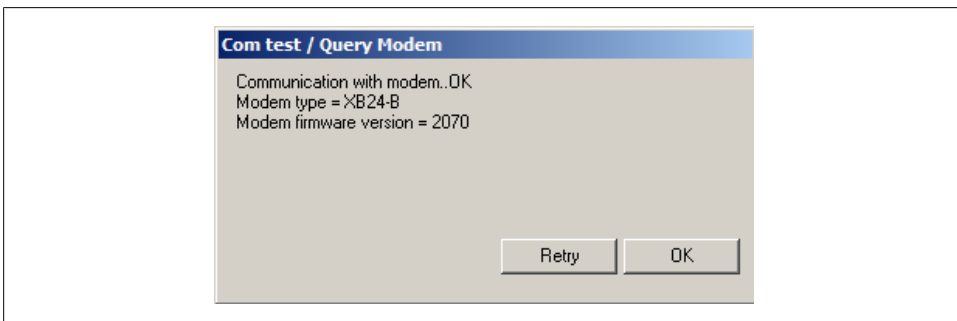

Figure 2-7. X-CTU test confirmation
The default settings in X-CTU will usually work for brand-new XBee radios that were configured at the factory. The easiest way to confirm that everything is set up correctly is to click on the Test/Query button once you've selected a COM port. If all goes well, you'll see a message that communication with the modem is OK and that gives you the modem type and firmware version, as shown in Figure 2-7.
2. Next, look in both the *xbee_s2* (series 2) and *xbee_zb* (ZigBee firmware) subdirectories to find the firmware file that matches what you saw in Figure 2-7 (for example, *XB24-ZB_2041.zip* for a regular XBee, *XBP24-ZB_2041.zip* for an XBee-PRO).